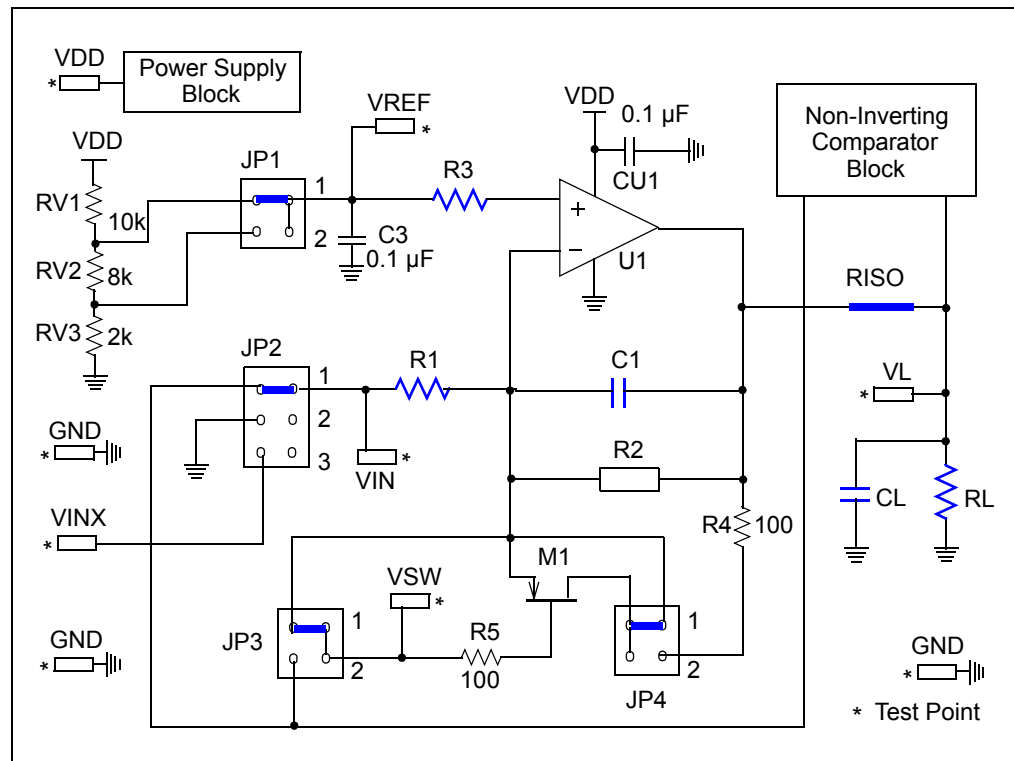

FIGURE 2-6: Inverting Integrator Example Supported by the MCP6XXX Amplifier Evaluation Board 4.
- The fully assembled inverting integrator is shown in Figure 2-6.